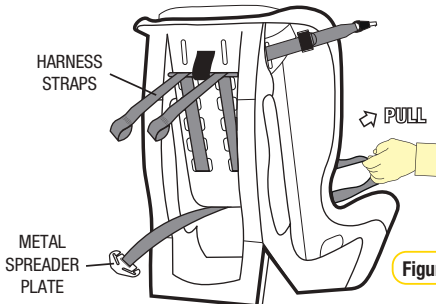

Figure 1.3
- Pull the shoulder harness straps through the shoulder slot holes in the restraint body and cover. They are now loose in the front of the restraint (see Figure 1.3).